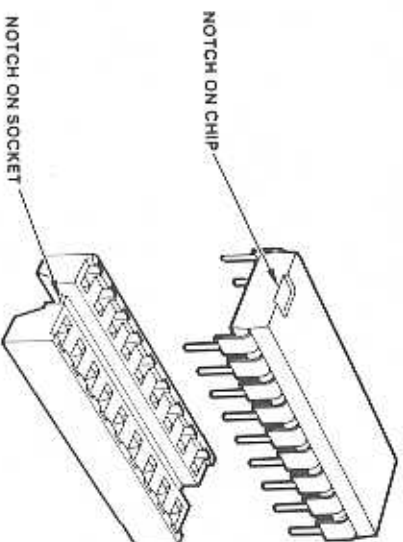

Figure 7-2. Inserting a Memory Chip
4. Install the chip by aligning the memory chip pins with the socket connectors. Be sure the notch at one end of the chip faces the notch on the socket (Figure 7-2). If the notch on the socket is hard to see, note the direction of notches on memory chips already installed. Press firmly.